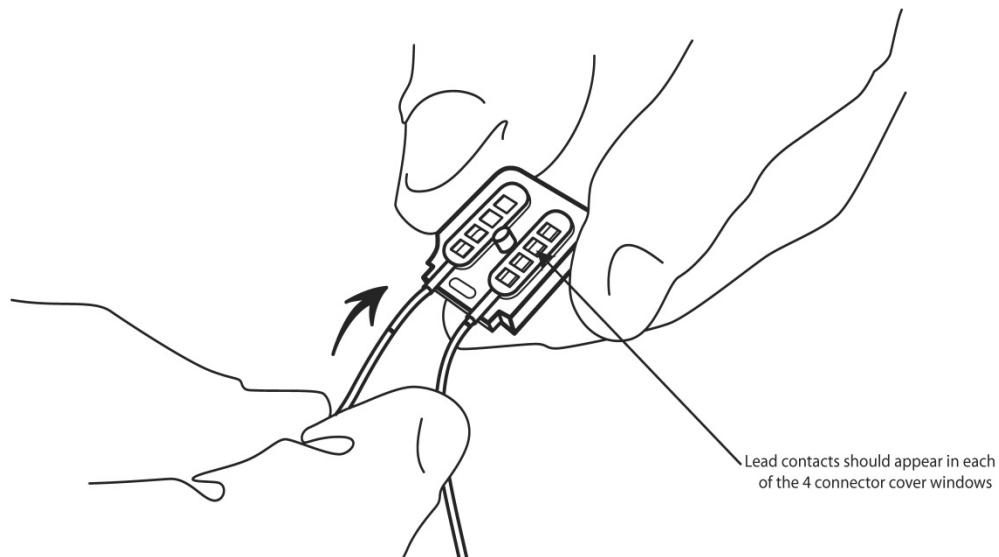

Figure 14: Connector cover with proximal lead contacts in place.
4. Confirm that the lead contacts are fully visible in each window of the connector cover (Figure 14).
19. Confirm that the lead contacts are fully visible in each window of the connector cover (Figure 14).